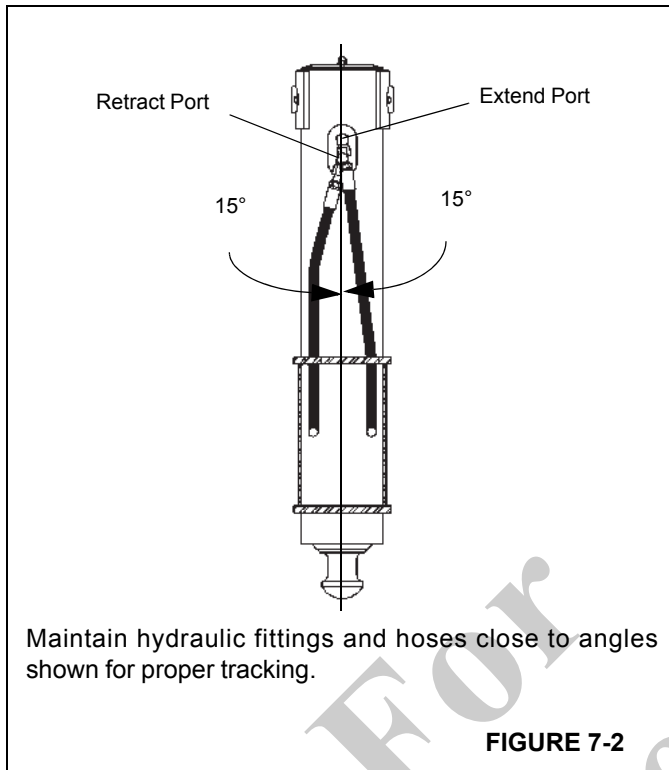

FIGURE 7-2
**NOTE:** Keep hydraulic fittings and hoses close to angles shown in (Figure 7-2) for proper tracking during extension and retraction.